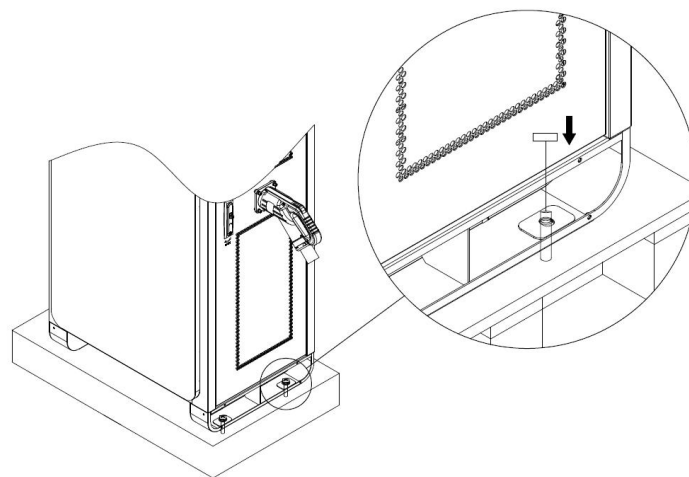

Figure 12
- Use a wrench to fix the 4 expansion bolts, as shown in Figure 12.